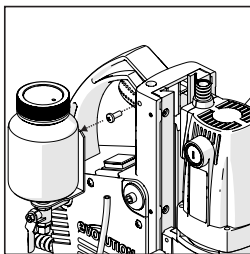

Fig. 3
- Attach the coolant/lubrication bottle to its service position. Use the tapped hole located at the top left of the machines casing and the Ø6 screw (provided). **(Fig. 3)**